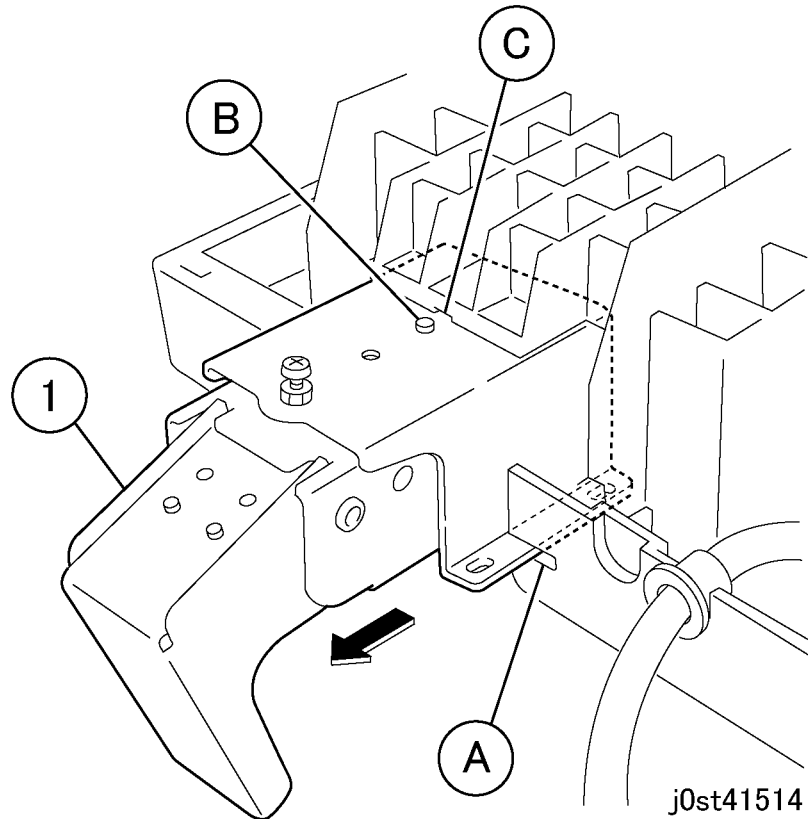

Figure 2 Removing the Right Counter Balance (j0st41514)
4. Remove the Right Counter Balance. (Figure 2)